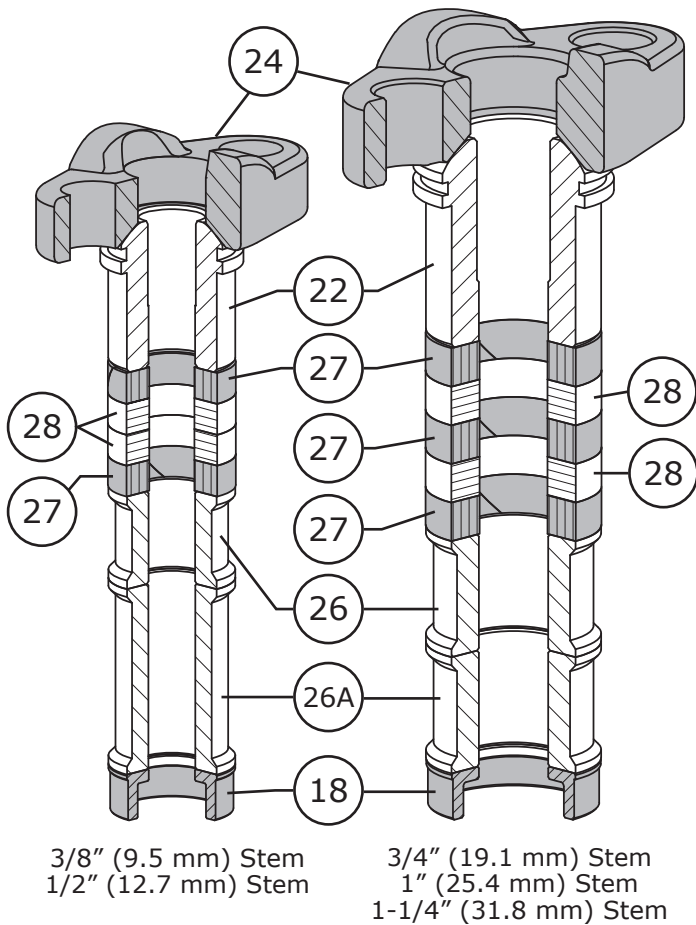

Figure 29 Single Graphite Packing Arrangement
- 6 Install the remainder of the graphite filament (Key 27) and graphite ribbon (Key 28) one at a time (as shown in Figure 25) in the proper order and orientation as shown in Figure 29.